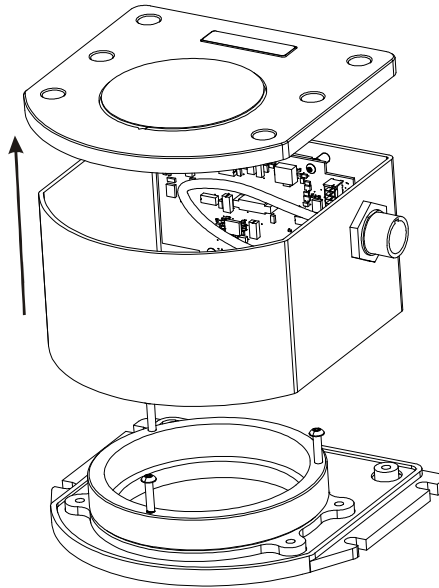

Figure 58: Lift Top Cover, Tube Body and 3 Ring Spacer Screws
3. Lift the top cover off the tube body and set it aside, as shown in *Figure 58* on page 362.